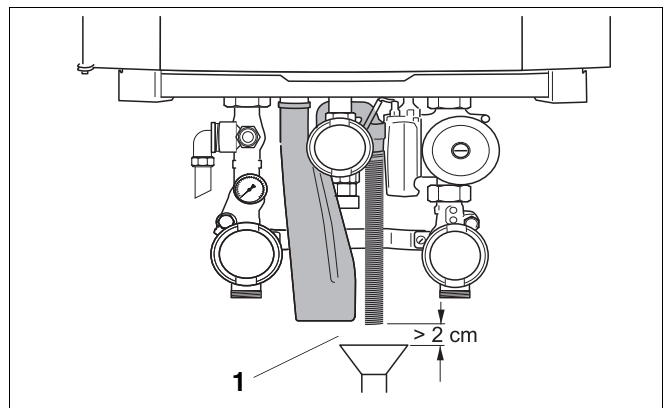

fig. 16 Condensate drain pipe
- The condensate must be able to run into a funnel (or neutralisation tank) without restrictions. This prevents condensate from building up in the boiler. The syphon in the connection kit must not be permanently connected to the condensate drain pipe. The minimum distance between the syphon and the condensate drainage pipe is 2 cm (fig. 16, **item 1**).